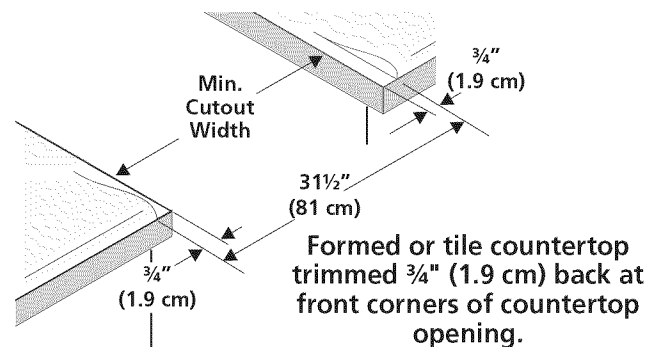

Figure 2
- **Formed front-edged countertops** must have molded edge shaved flat 3/4" (1.9 cm) from each front corner of opening (Figure 2).
- **Tile countertops** may need trim cut back 3/4" (1.9 cm) from each front corner and/or rounded edge flattened (Figure 2).